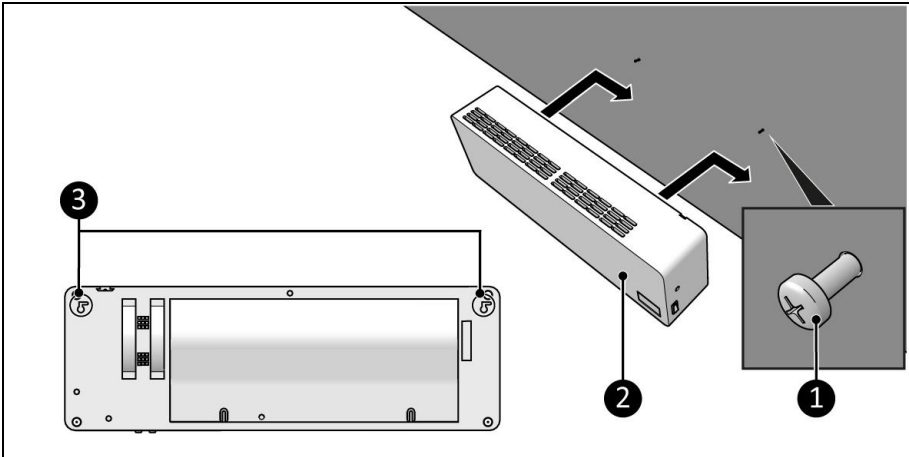

Figure 8
7. Place the device with the mounting holes (Figure 8, pos. 3) over the screws (Figure 8, pos. 1).
8. Slide the device (Figure 8, pos. 2) down and to the right.